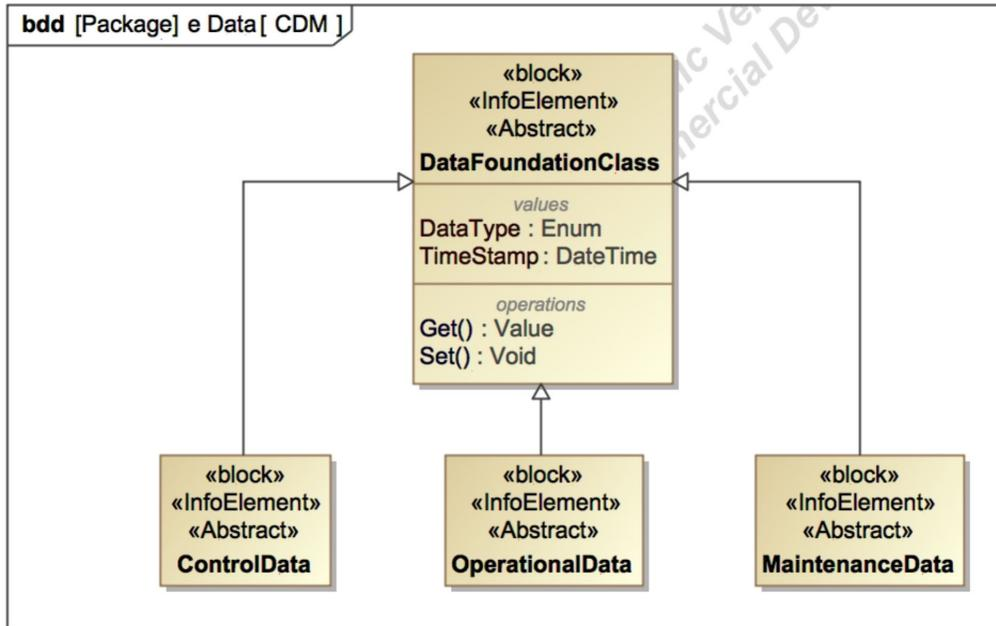

Figure 23. Conceptual Data Model with Foundation Classes
- B. Fig. 23 illustrates this with a very simple CDM from the microwave oven model. All of these Blocks are stereotyped as <<Abstract>> since they are never directly instantiated. At the root is a completely general Data Foundation Class that defines the Values and Operations needed by all Foundation Classes. Three more specific Foundation Classes inherit from this